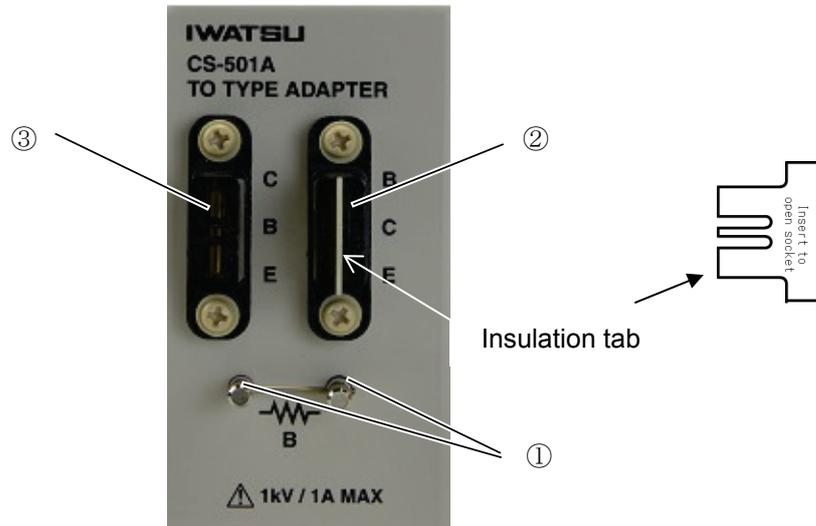
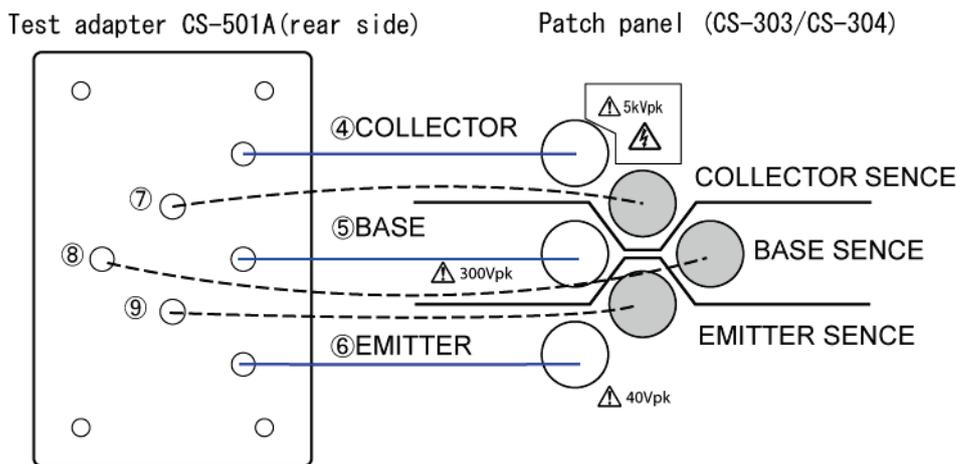

Figure 2.15 Test adapter CS-501A (front side)
Figure 2.16 Test adapter CS-501A (rear side) attached to the patch panel
⑨	AUX GROUND	Ground terminal of external output voltage	Section 3.11.6
⑩	COLLECTOR SUPPLY, HIGH VOLTAGE OR HIGH CURRENT	It mitigates the shock when the upper cover is closed.	Section 3.7
⑪	COLLECTOR SUPPLY SENSE	It connects with the ① HIGH VOLTAGE or ③ HIGH CURRENT.	Section 3.7
⑫	EMITTER/SOURCE/CATHODE	It connects with the output terminal in emitter / source / cathode of ④.	Section 3.7
⑬	EMITTER/SOURCE/CATHODE SENSE	It connects with the Kelvin Sense terminal of ⑤.	Section 3.7
⑭	BASE/GATE	It connects with the output terminal in the step signal of ⑥.	Section 3.6
⑮	BASE/GATE SENSE	It connects with the Kelvin Sense terminal of ⑦.	Section 3.6
⑯	BASE/GATE 1kΩ	It is connected internally through the base terminal of ⑰ and the resistance of 1kΩ.	Section 3.3
⑰	ADAPTER EXCLUSIVE USE	These are terminals that install the test adapter.	Section 3.3
Figure 2.15 shows the test adapter CS-501 A (front side) of this instrument and Figure 2.16 shows the connection diagram between the test adapter CS-501A (rear side) and the patch panel. The summary about part names and functions is presented in Table 2.12 of next page. The test adapter CS-501A (TO type adapter) is the optional instrument and can be mounted on either of test fixtures CS-303 and CS-304. One insulation tab (Figure 2.15) is attached to test adaptor CS-501A. (When buying it, insulation tab is inserted in the socket of ② or ③ of Figure 2.15 like the dotted line.)
- For an accurate measurement, insert an accessory insulation tab in the socket (② or ③ of Figure 2.15) that doesn't connect the measurement element while measuring.